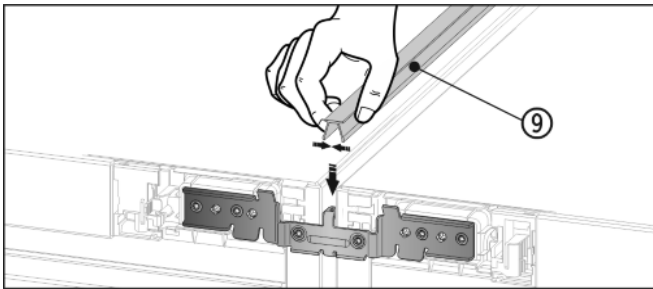

Fig. 13
- ▶ On the top press the short cover strip Fig. 13 (9) into the horizontal gap.